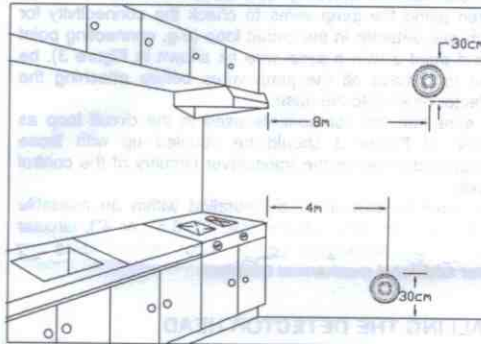

Figure 1. Suggested installation positions for GD518 series gas Detectors
2. Natural gas is lighter than air, therefore, it collects in the ceiling of rooms. In order to reach effective sensibility of natural gas leaks, you should install your gas detector as close to the ceiling as possible, i.e. under 30 cm from the ceiling and less than 8 m of horizontal distance away from gas burner or a kitchen stove in the same room, as shown in Figure 1.